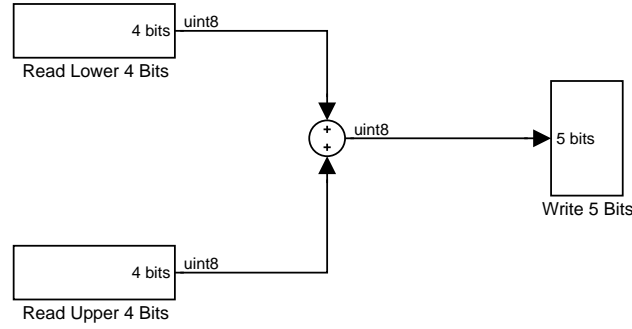
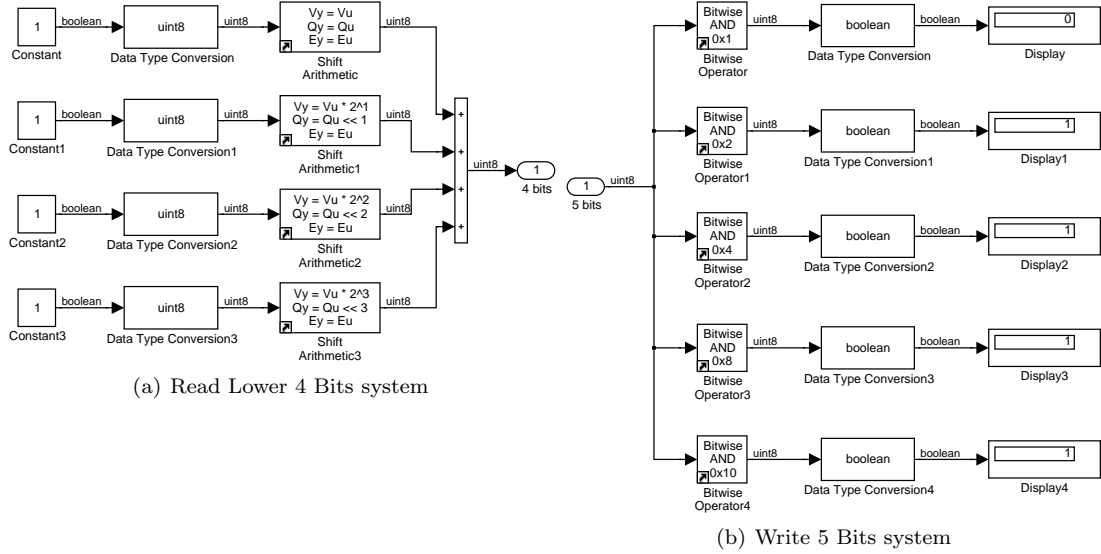

Figure 1: Top-level system
Figure 2: Block diagrams of a 4-bit adder.
3. Create a new simulink model to add two 4-bit numbers. As shown in Figure 1 add the three subsystems and implement them like shown in the Figure 2. By changing the values in the **Constant** blocks in the Read Bits subsystem, we can specify two 4-bit numbers. Together those 8 constant blocks are the 8 binary input values. Notice that the output **Display** blocks do not change value until you run the model.